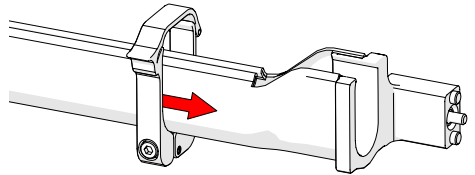

Fig. 167 - Slide clamp onto mount
4. Slide the clamp over the tube and HT cable management mount pinching the tube in between (Fig. 167).